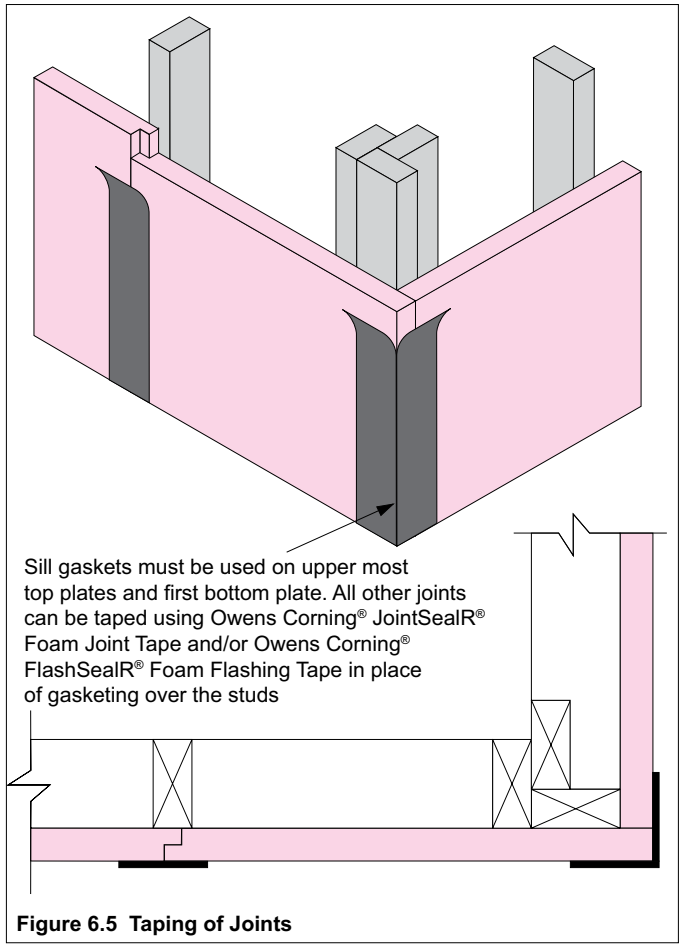

Figure 6.5 Taping of Joints
- taping of joints (Figure 6.5).